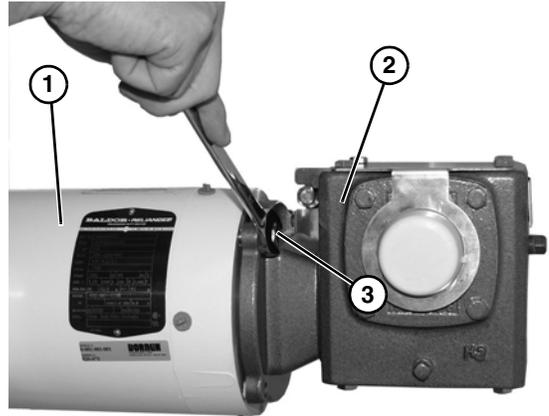

Figure 43
- Secure motor (**Figure 43, item 1**) to gear reducer (**Figure 43, item 2**), with four bolts (**Figure 43, item 3**).
- Tighten four bolts (**Figure 43, item 3**) to 65 in-lbs (7.3 N-m).